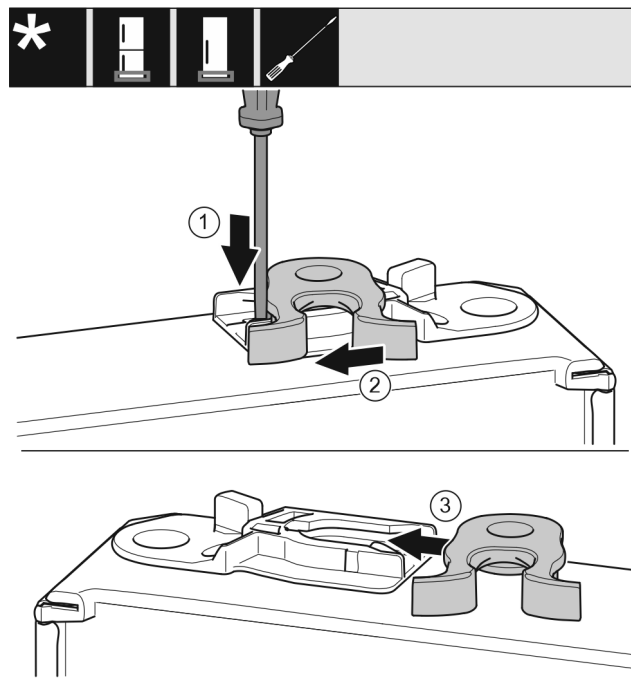

Fig. 18
- Push the lug downward with a slotted screwdriver. Fig. 18 (1)
- Pull the door latch out of the guide. Fig. 18 (2)
- Push the door latch into the guide on the other side. Fig. 18 (3)